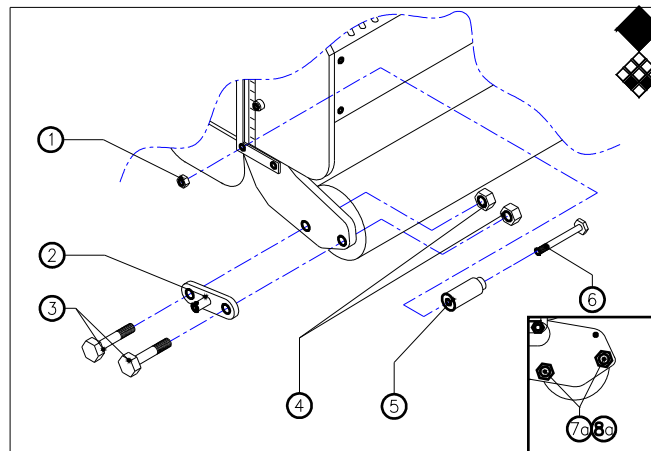

fig.5
1.3 Assembly of the pivot (see fig. 5)